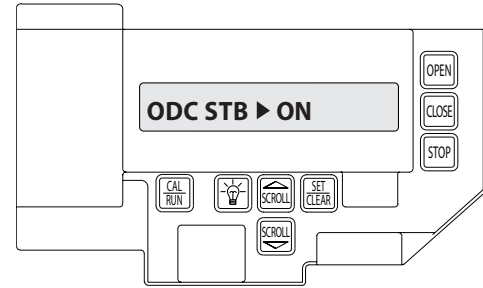

Figure 16
- 2) Press SCROLL  key (up or down) until display reads "ODC STB>ON" or "ODC STB>OFF" **Figure 16**.